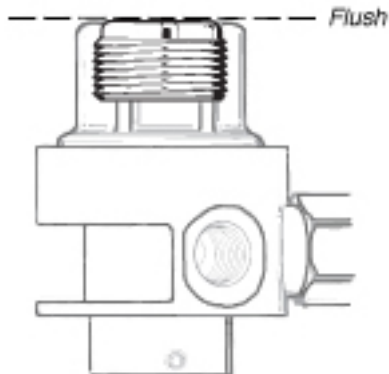

Figure 51 - Adjustment screw preliminary setting
4. Check to ensure that the first stage adjustment screw (1) is preset flush with the top of the spring retainer (2) (see Figure 51).